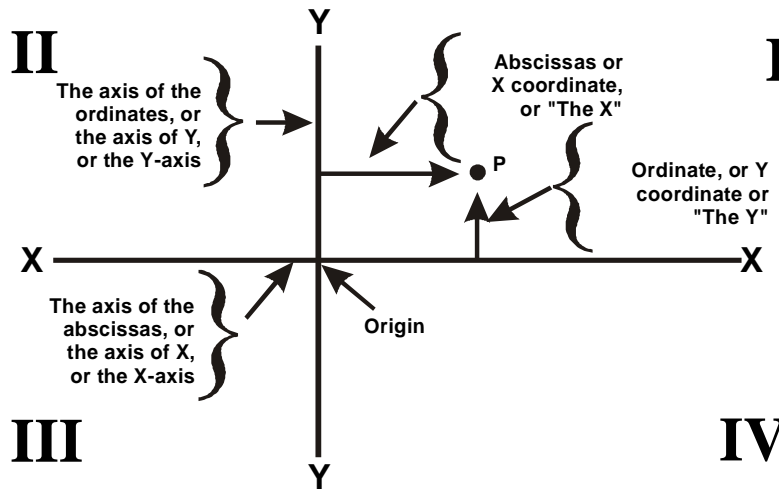

Figure 3-1. Reference frame with x-axis and y-axis.
- (1) Determine the reference frame. If the values are both positive numbers, the entire graph can be constructed in quadrant I. See Figure 3-1.